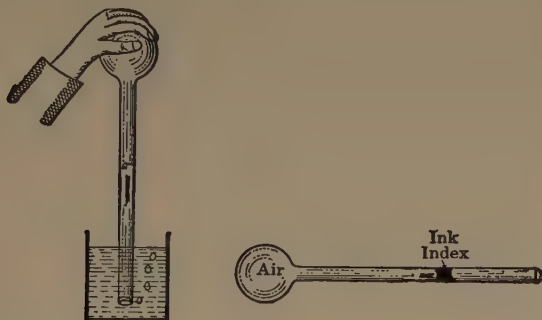

FIG. 43. — Expansion and contraction of a gas under changes of temperature.
**Will gases expand?** After seeing that some solids and liquids expand when heated, we may wonder whether gases expand similarly. Experiment will show us. A large glass bulb, with a long, slender tube attached, is held with the open end of the tube under water, as in Fig. 43.